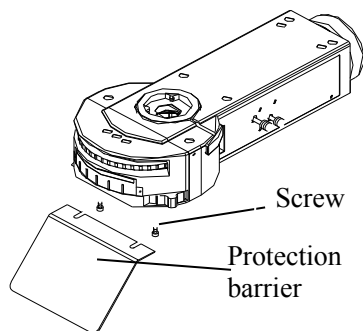

Fig.5
2.4 Mounting Protection Barrier (Fig.5)